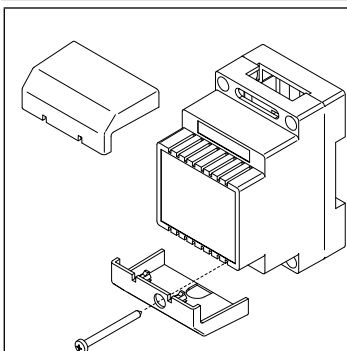

Fig. 3
1. Remove the terminal side covers by unscrewing the retaining screws (**Fig. 3**);